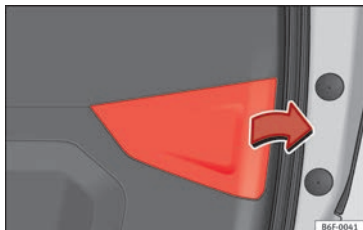

Fig. 117 Rear lid open: remove the lid.
3. Remove the rear lid cover in the direction indicated » **Fig. 117**.